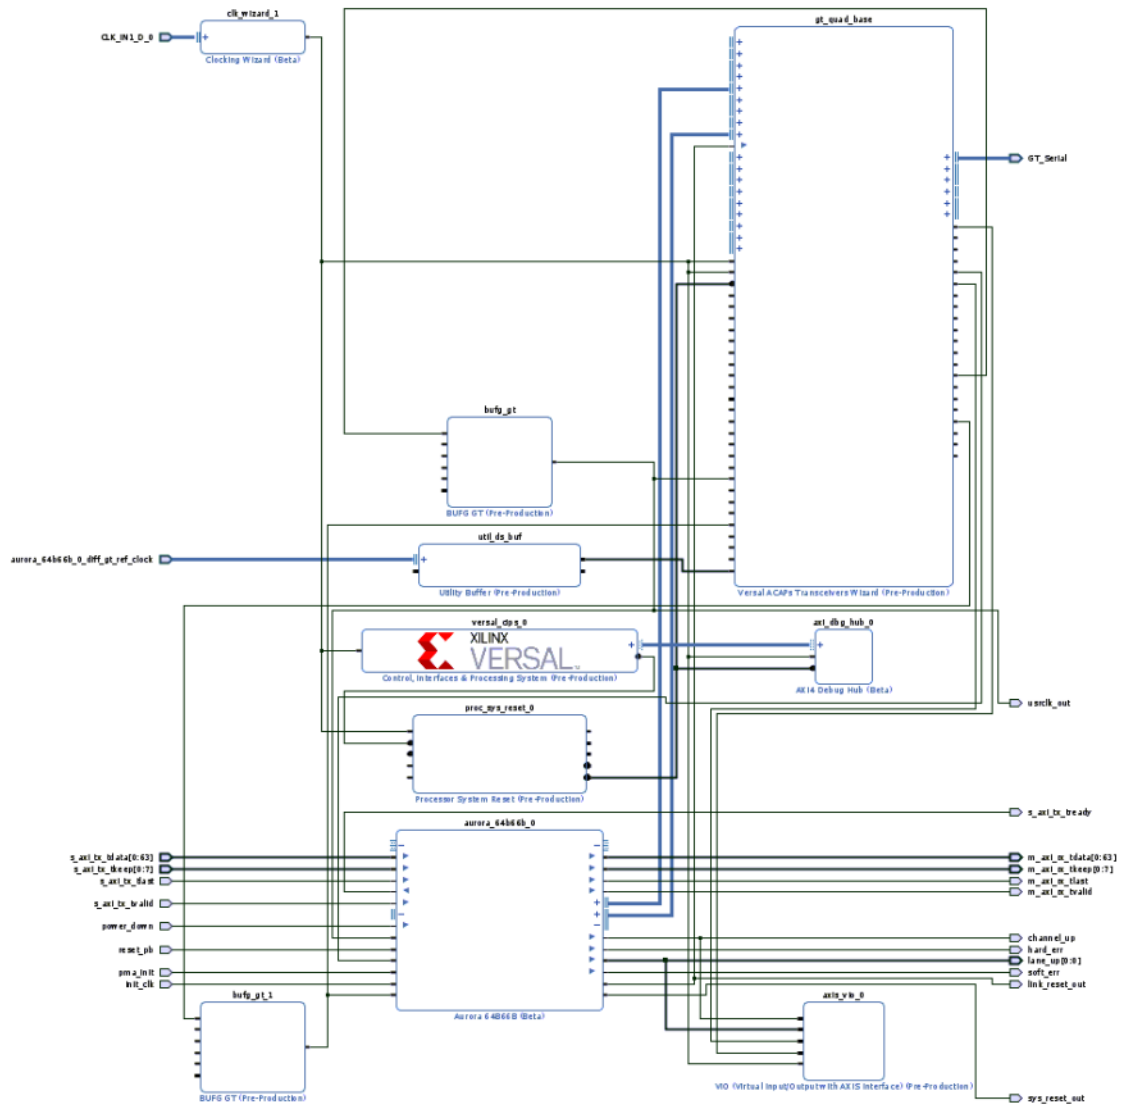
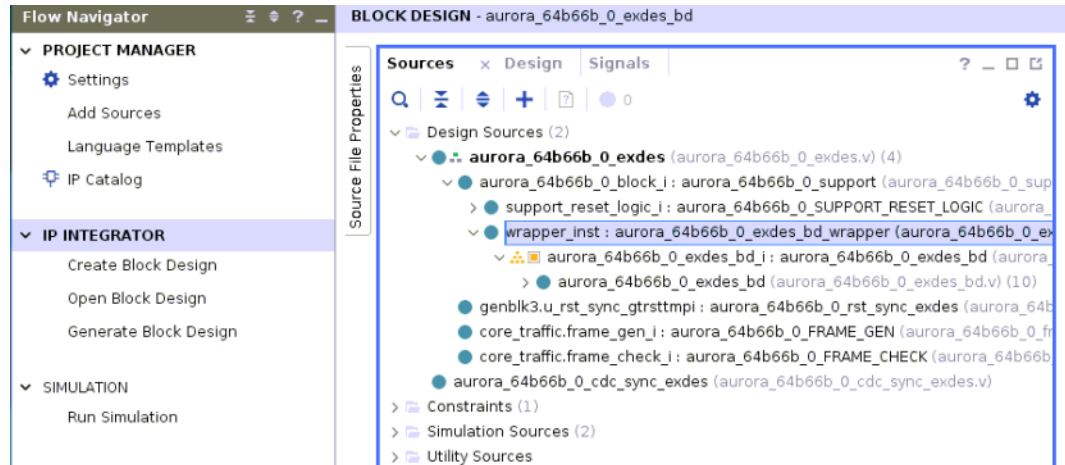

Figure B-1: Aurora Example Design
Figure B-2: Aurora Example Design BD Wrapper
- Generate Aurora IP from Vivado IP catalog, open example design. Versal ACAP Aurora IP example design has an IPI based reference design as shown in Figure B-1. Refer the example design wrapper file <IP_inst_name>_exdes_bd_wrapper as shown in Figure B-2. This wrapper file has the necessary connections between Aurora and gt_quadbase IP. For more information, see *Versal ACAP Transceivers Wizard LogiCORE IP Product Guide (PG331)*[Ref 31].